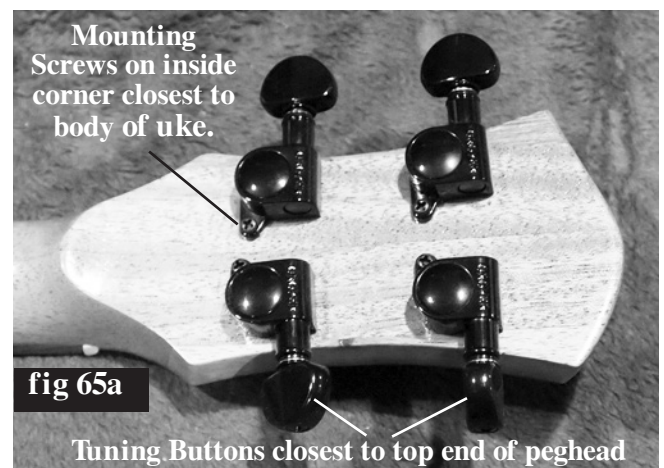

fig 65a
65. Find the geared tuners and push them into the back of the peghead, being careful to orient them correctly. There are two for the left side and two for the right (fig 65a).